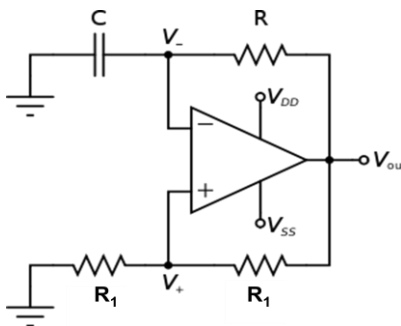

Fig 2. Relaxation Oscillatorⁱ
i) Build the relaxation oscillator (Fig 2). Pick R, C based on your previous calculation. You can use a 100-k Ω potentiometer for R. Use a 20-k Ω resistor for R1. What is the oscillation frequency? Tune the potentiometer until the frequency of the square wave is 10 Hz and show it to your GSI.